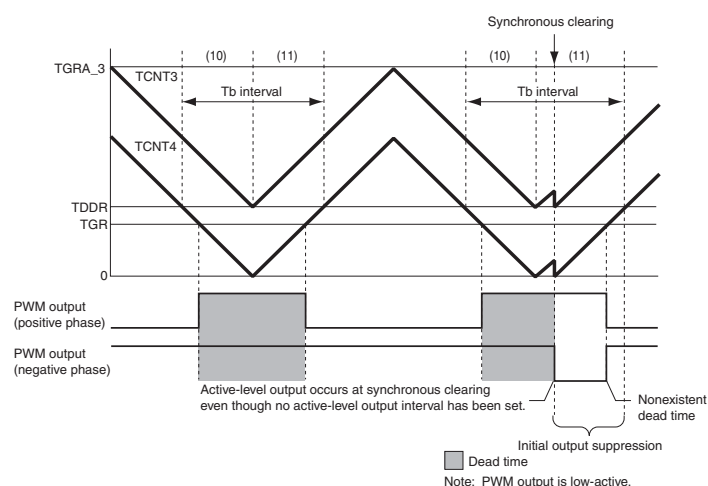

Figure 2 Condition (2) Synchronous Clearing Example
Condition (2): When synchronous clearing occurs within initial output suppression interval (10) or (11) and  $TGRB\_3 \leq TDDR$ ,  $TGRA\_4 \leq TDDR$ , or  $TGRB\_4 \leq TDDR$  is true (figure 2).